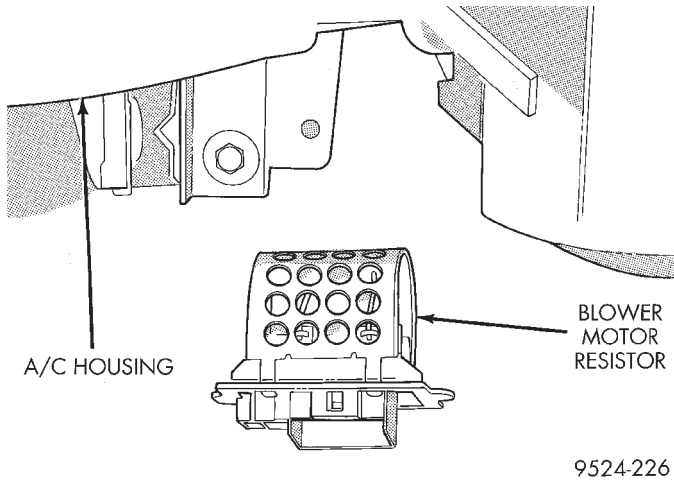

Fig. 14 Blower Motor Resistor
- (1) Remove lower right underpanel silencer/duct.
- (2) Disconnect wiring connectors on blower motor resistor.
- (3) Remove blower motor resistor retaining screws.
- (4) Pull blower motor resistor out of heater housing (Fig. 14).